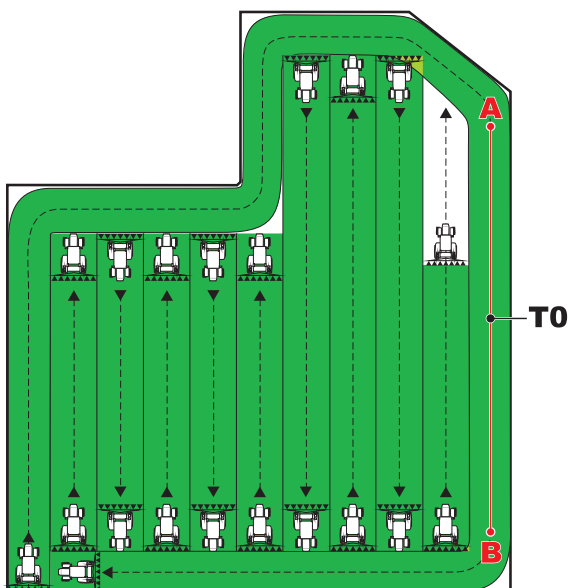
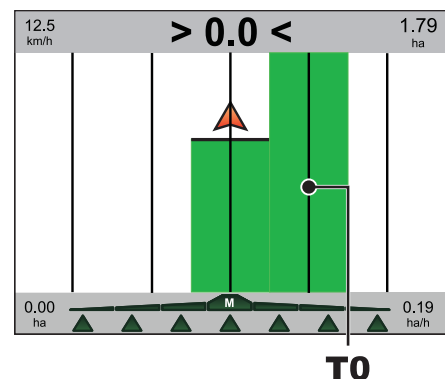

Fig. 219
Fig. 220
- Once straight line A/B (**T0**) is tracked, the whole field could be sprayed along tracks parallel to it (Fig. 219), following the reference tracks that will be displayed (Fig. 220).